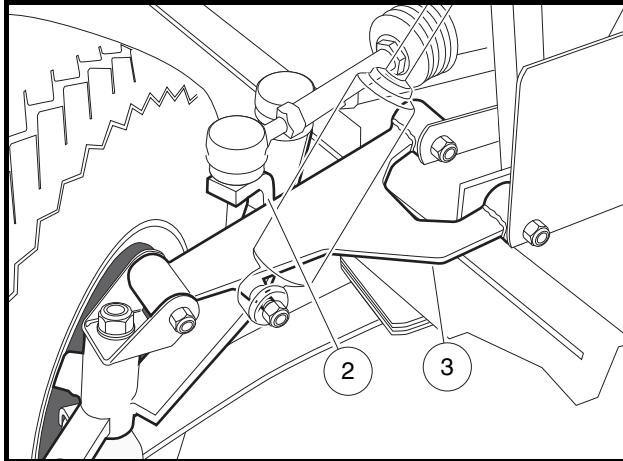

Figure 7-7 Adjust Steering Alignment
1. Turn the steering wheel all the way to the right. Note the distance between the passenger side spindle stop (2) and passenger side A-plate (3) (**Figure 7-7, Page 7-8**). The internal stop on the rack must reach its limit of travel against rack and pinion housing at exactly the same time the spindle stops against the passenger side A-plate (with vehicle wheels turned to the right). If simultaneous contact occurs, steering is in correct adjustment; proceed to step 4. If simultaneous contact does not occur, proceed to step 2.